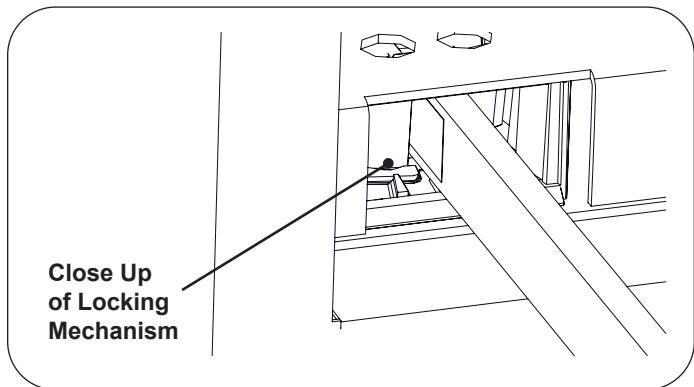
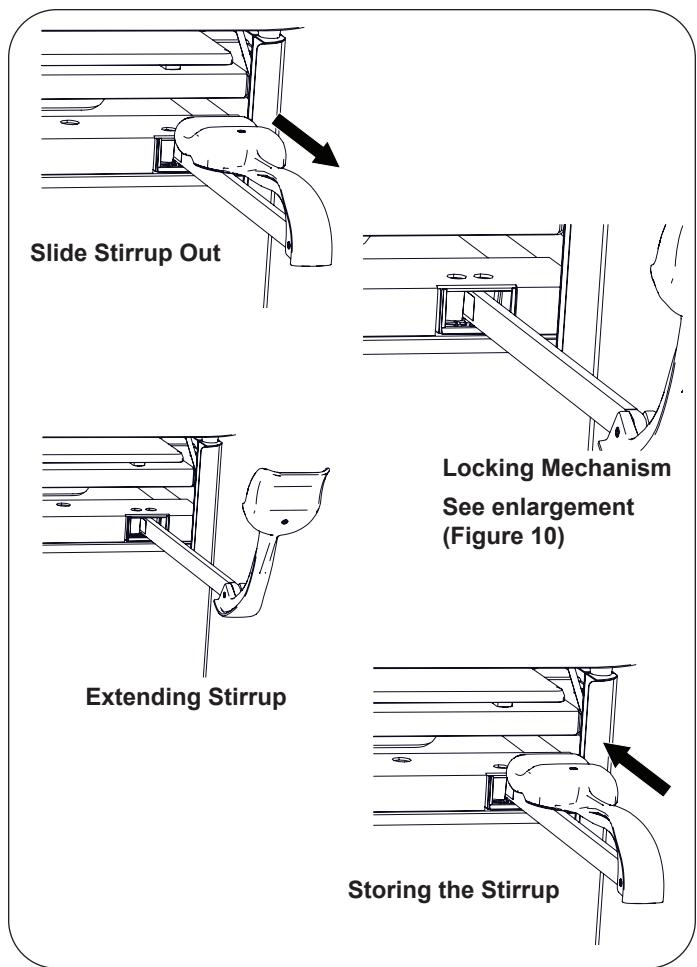

Figure 10. Stirrup Locking Mechanism
Figure 11. Stirrups
1. To operate the stirrups, grasp end of stirrup and pull straight out of the table (Figure 10). Lift up slightly while sliding the stirrup out.
2. When the desired position is achieved, lower the stirrup to engage the lateral locking mechanism (Figure 10 and Figure 11).